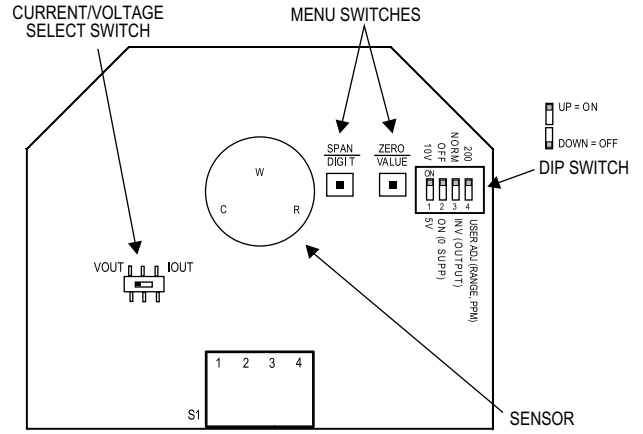

Figure 3
8. Set DIP SWITCH and IOUT/VOUT SWITCH as desired. Refer to Figure 3.
To access the current/voltage select switch, remove the cover of the unit. The current/voltage select switch is located on the circuit board as shown in Figure 3. Set the switch to "IOUT" for current, "VOUT" for voltage.
To access the DIP SWITCH, remove the cover of the unit. The DIP SWITCH is located on the circuit board as shown in Figure 3.
1. Remove the cover plugs from the face of the unit and top cover. Locate the sensor, see Figure 3 – the sensor is mounted on three pin sockets. The circuit board is labeled either “CO SENSOR” or “NO2 SENSOR” underneath the sensor.